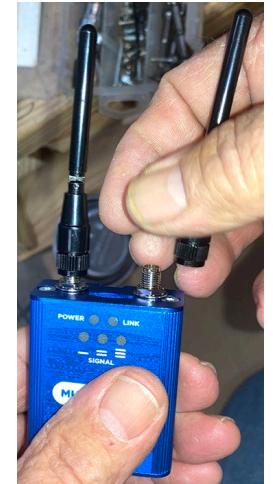
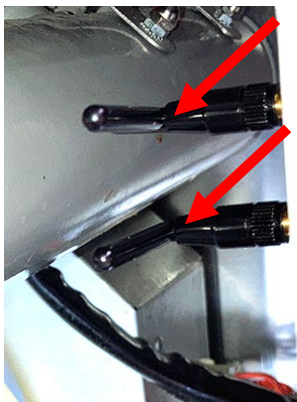

Figure 15
Figure 16
15. If antenna extensions were used, disconnect the extensions and connect antennas directly to the modem (see Figure 15). Ensure the antennas are parallel to each another (see Figure 16).